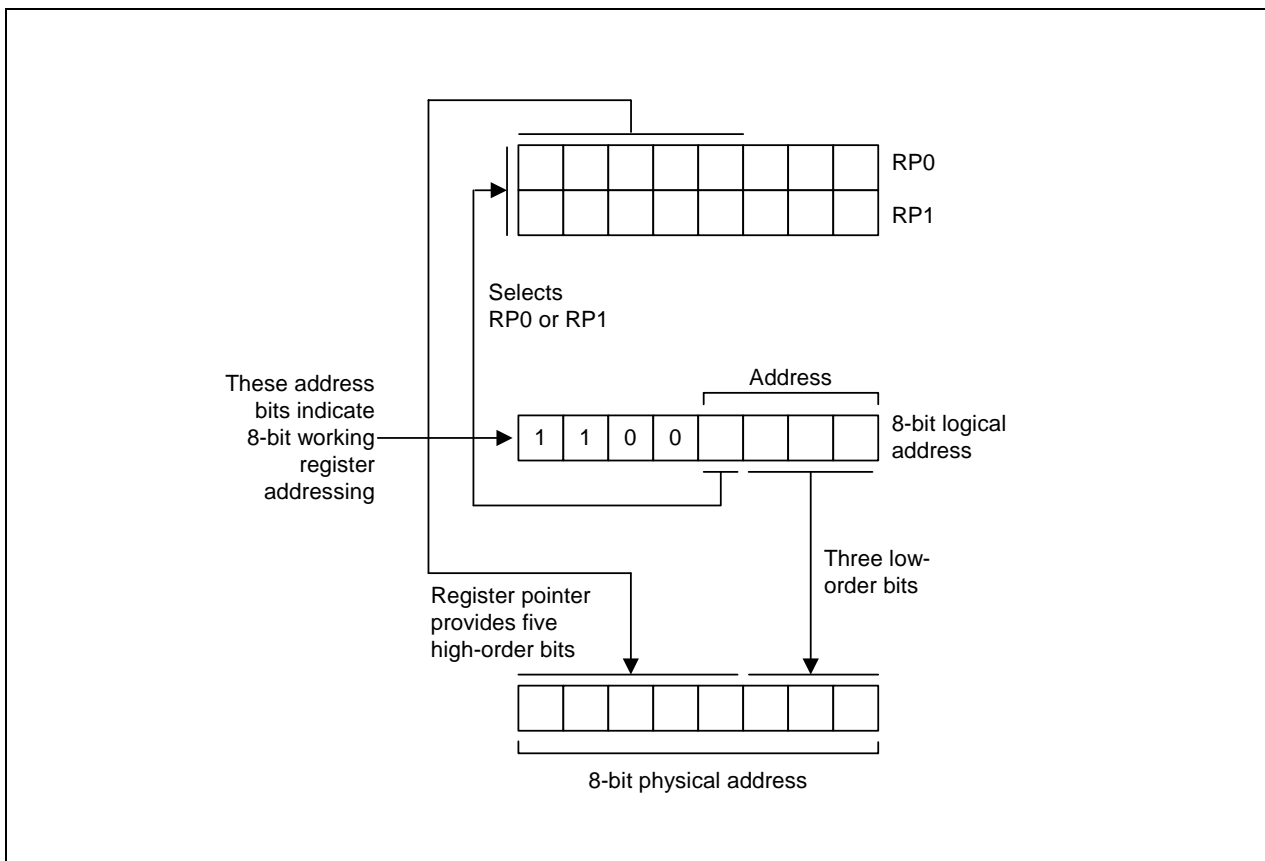

Figure 2-14. 8-Bit Working Register Addressing
Figure 2-14 shows an example of 8-bit working register addressing. The four high-order bits of the instruction address (1100B) specify 8-bit working register addressing. Bit 4 ("1") selects RP1 and the five high-order bits in RP1 (10101B) become the five high-order bits of the register address. The three low-order bits of the register address (011) are provided by the three low-order bits of the 8-bit instruction address. The five-address bits from RP1 and the three address bits from the instruction are concatenated to form the complete register address, 0ABH (10101011B).